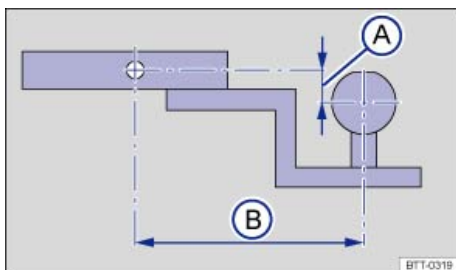

Fig. 100 Dimensions of the ball mount support.
The receiver used requires both a ball mount and a ball that meet special requirements regarding geometry and size. This applies to both the height of the ball above the surface where it attaches ⇒ fig. 100 \(A\), and the pin-to-ball distance (B).